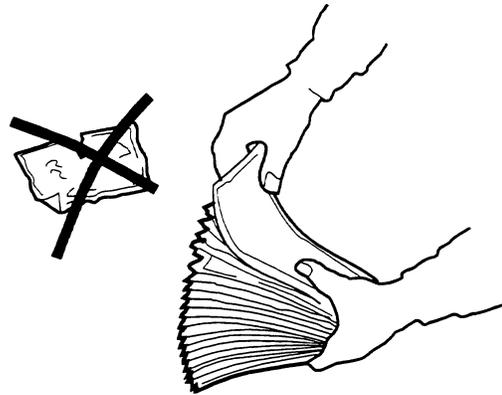

Figure 4-2. Removing Torn/Worn Notes.
- To remove the selected Note Cassette, grasp the cassette handle with one hand while holding the mechanism in place with the other hand (See Figure 4-2). Pull the cassette out slightly. Place one hand underneath to support the cassette as you slide it completely out of the unit.